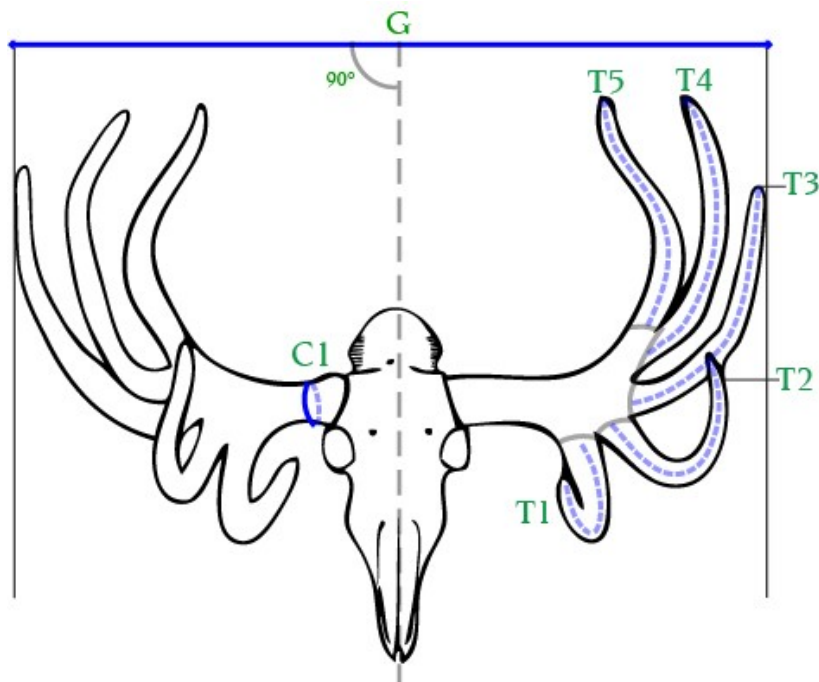

Figure 1.
1. Circumference. Measure the circumference of each main antler beam at the smallest point between the burr (coronet) and the first tine. (Figure 1, C1) In some cases there may be “pearling” growth formations and even small tines; avoid these and be sure to find the smallest circumference. Take this measurement at a 90-degree angle to the antler beam.
2. Tines. All measurements are taken from the underside of the antlers. (Figure 1) Mark the base line of all tines clearly with a pencil where the main beam stops and the tine starts (see GDI on how to measure a tine). Start the measurement on the tine end and stop in the center of the base line. Measure the length of